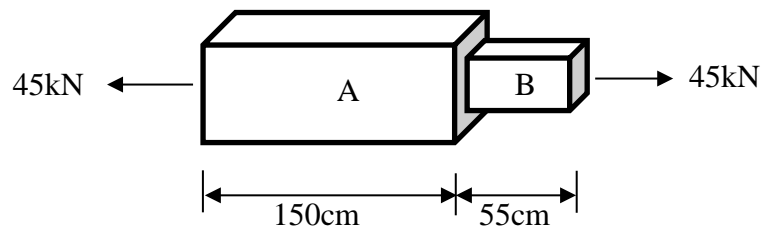

Figure 1(b) / Rajah 1(b)
- (b) **Figure 1(b)** shows a copper bar with a square cross section is subjected to a tensile force of 45kN. Section A and B have a cross section area of 850cm² and 420cm² respectively. Given $E_{\text{copper}} = 100 \text{ GPa}$. Calculate: